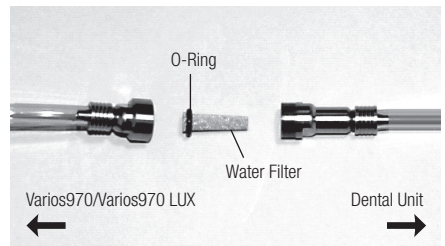

Fig.43
- 3) When the Water Filter case is separated, the Water Filter can be removed as shown in Fig.43.